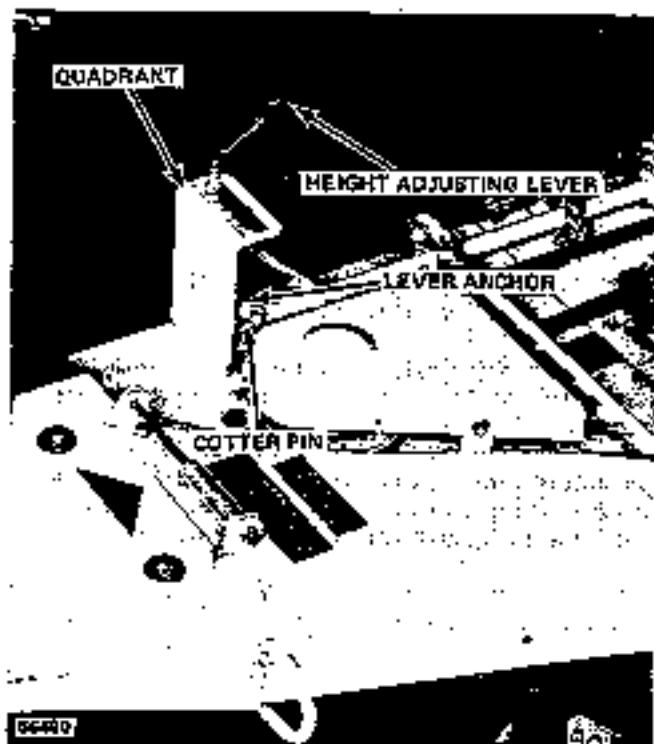

FIGURE 8
1. Place end of height adjusting lever through slot in quadrant and insert end in lever anchor. Install cotter pin in end of lever (Figures 8 and 9).